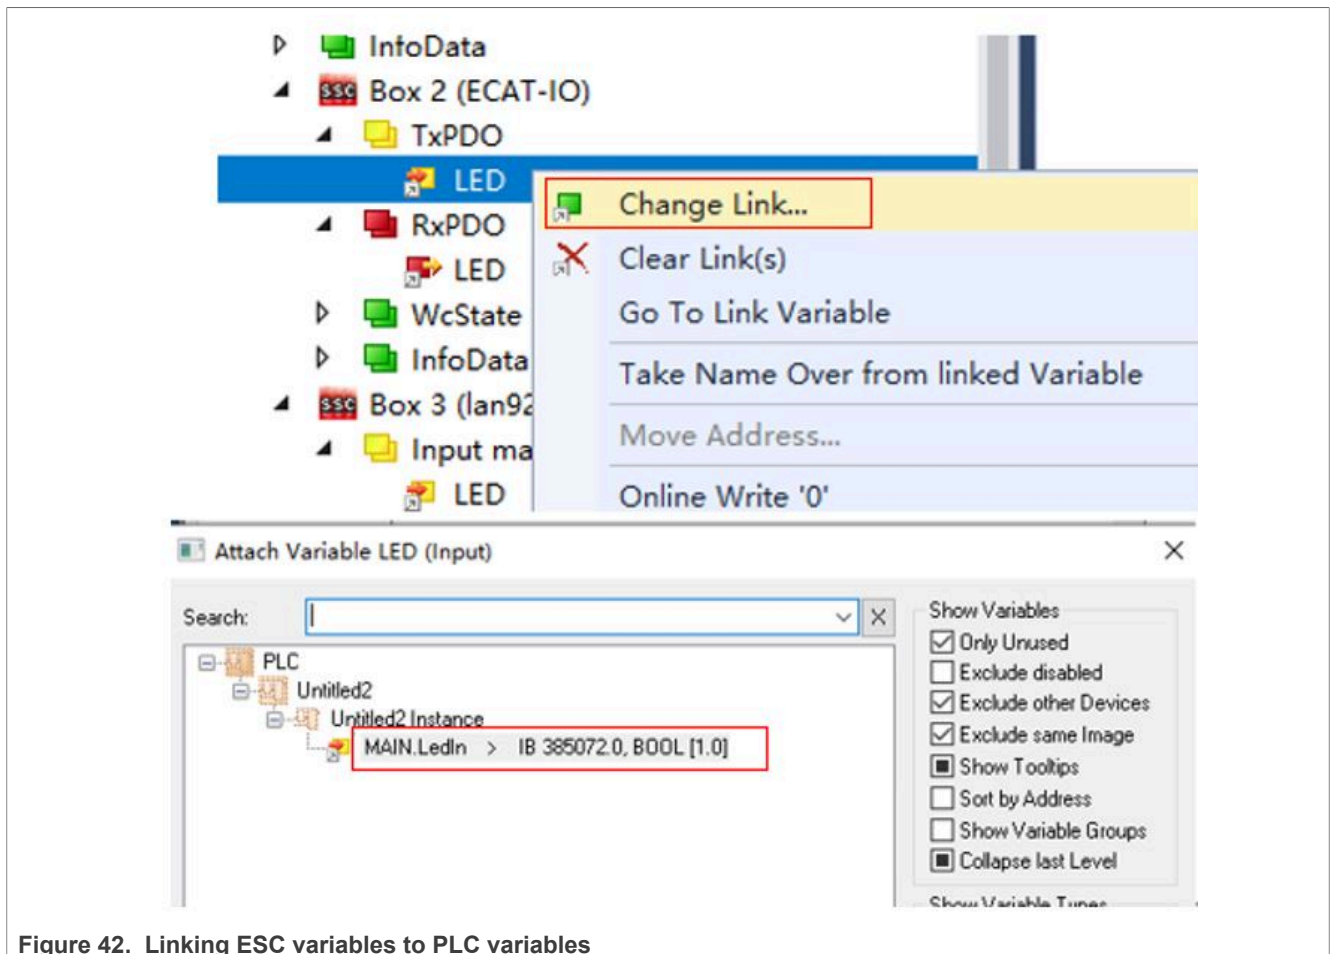

Figure 42. Linking ESC variables to PLC variables
4. Link the ESC input and output variables to the PLC project variables. For this, right click 'LED' and choose **Change Link**, as shown in Figure 42.